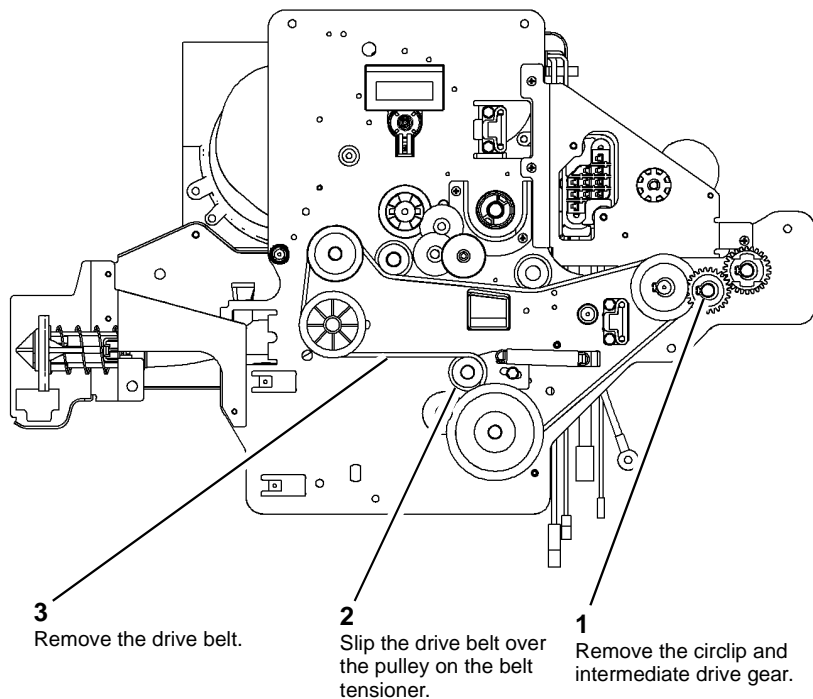

Figure 1 Main drive belt 35 ppm
2. To remove the main drive belt, (35 ppm), refer to Figure 1.